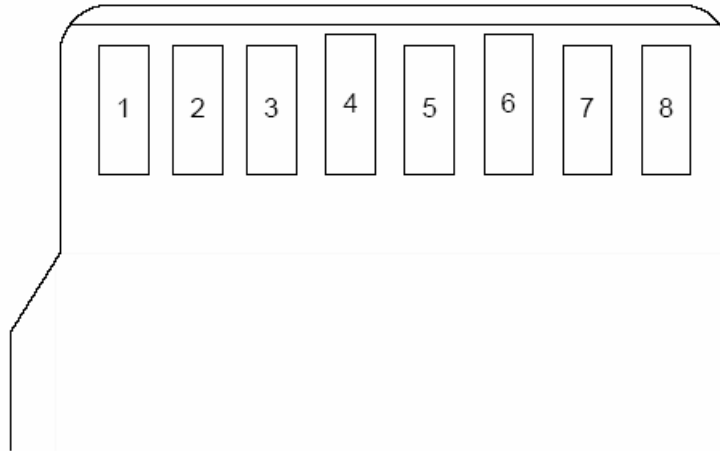

Fig 2 - microSD Card Pin Designation
- Fig 2 - microSD Card Pin Designation